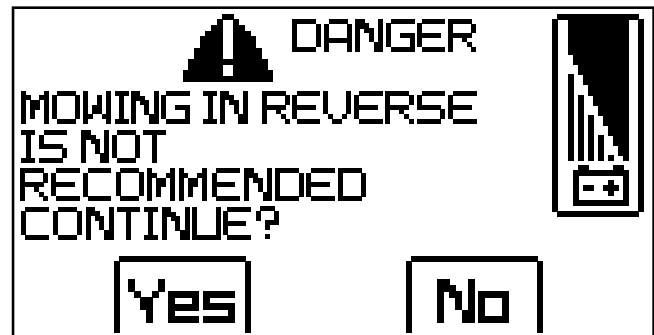

Figure 5-12
3. Once the RCM button  is pressed a warning statement will display on the LCD screen asking for confirmation of activating the RCM. To continue in RCM press the "BLADE BOOST" button below the "Yes" icon, to cancel RCM press the "SYSTEM SETTINGS" button below the "No" icon. See Figure 5-12.